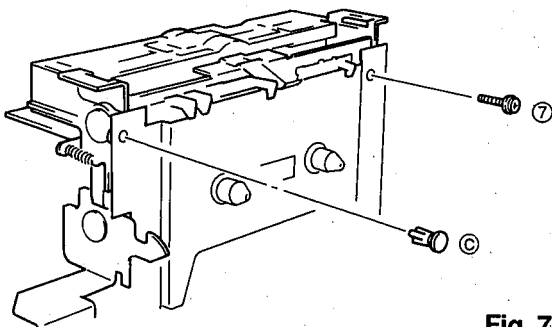

Fig. 7
- a. Remove 1 screw (7) and 1 plastic rivet (C) in fig. 7 and then remove the back plate.